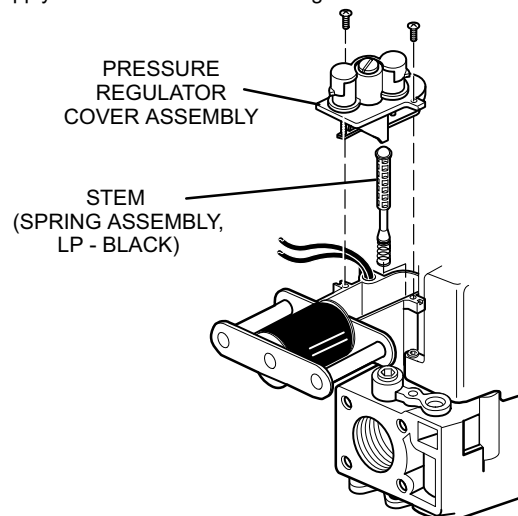

FIGURE 2
- 8- Install the spring kit. Refer to figure 2 or 3 and manufacturer's instructions packaged with spring kit.